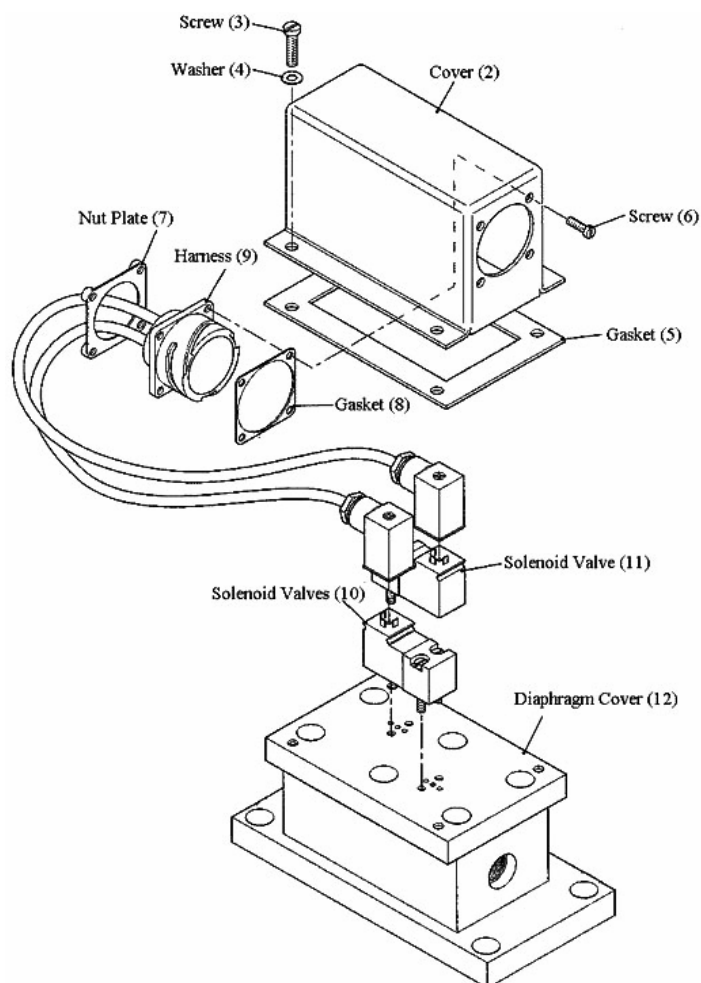

Figure 1: Westinghouse WSP Dump Valve – Solenoid Valve & Harness Removal
- 1.3 Referring to Figure 1, remove screws (3) and washers (4) securing the cover (2) to the diaphragm cover (12).